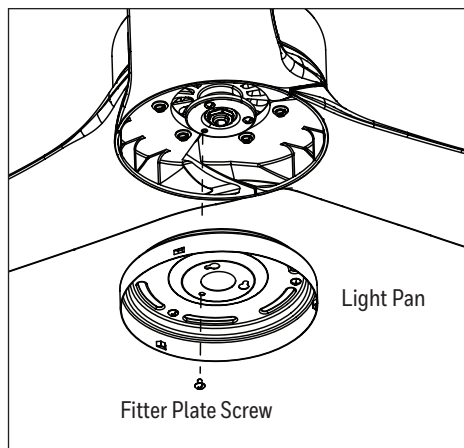

Figure 5.4
4. Align the keyhole slots in the light pan with the loosened screws in the fitter plate. Turn light pan clockwise and replace the previously removed fitter plate screw. Tighten all screws (Figure 5.4).